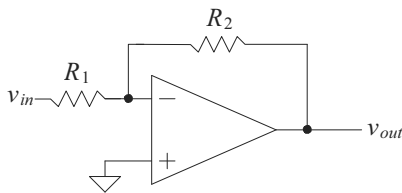

Figure 31.68 How finite open-loop gain effects closed-loop gain, problem 31.32.
31.32 You have just measured the gain of the op-amp circuit shown in Fig. 31.68. You know from basic op-amp theory that the gain of the circuit should be $-R_2/R_1$ V/V. However, your measurements with $R_2 = 10\text{ k}\Omega$ and $R_1 = 1\text{ k}\Omega$ revealed that the gain was only -5 V/V . What is the open-loop gain of the op-amp?